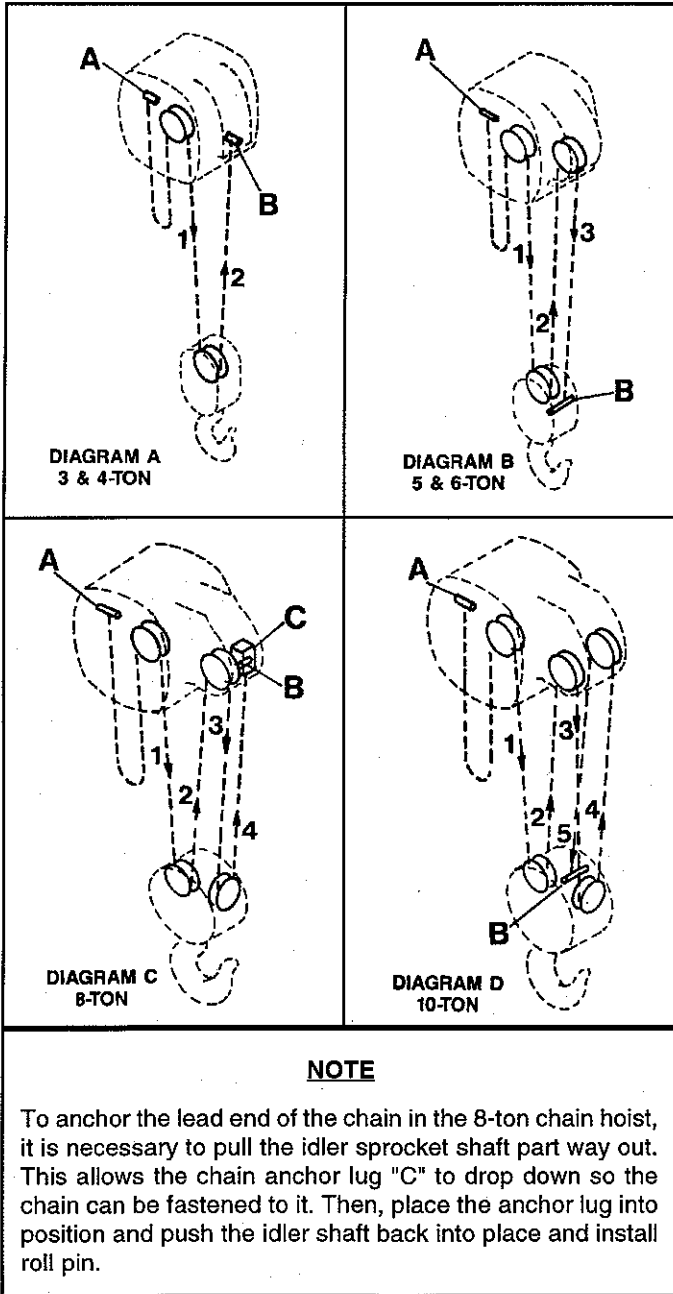

Figure 7-4. Reeving Diagrams
- h. Remove load chain as follows: First disconnect tail end of chain from anchor at side of frame by removing anchor pin. Next disconnect other end of chain from its anchor at frame or lower block, depending upon chain reeving. See Figure 7-4.
(1) On 3 and 4-ton models, drive out roll pin securing chain anchor pin in frame and take out anchor pin, freeing end of chain.
(2) On 5 and 6-ton models, remove the retaining rings from ends of anchor pin in lower block body. Remove anchor pin, freeing end of chain.
(3) On 8-ton models, drive out roll pin securing upper idler shaft in frame and remove shaft, freeing upper idler sprocket and chain anchor block. Drive out pin and separate chain from anchor block.
(4) On 10-ton models, drive out roll pin securing anchor pin in lower block body and remove anchor pin, freeing end of chain.
(5) With both ends of load chain disconnected, pull chain through frame and lower block to remove it.
c. Now using the lead end of the load chain, continue reeving according to the illustration in Figure 7-4, applicable to your chain hoist. Make sure there is absolutely no twist in the chain.